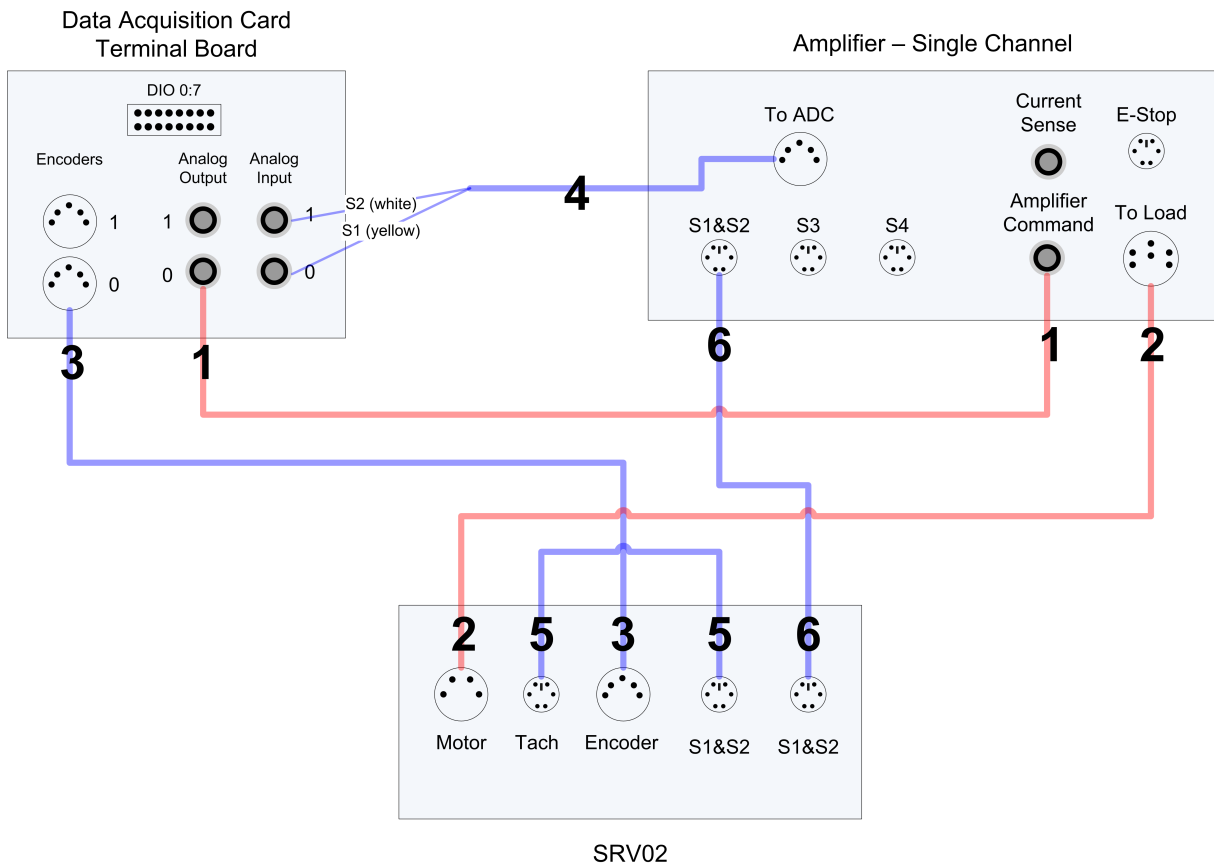

Figure 5.1: Connecting the SRV02 to a Single-Channel Amplifier and Two-Channel DAQ
This section describes the typical connections used to connect the SRV02 plant to a data-acquisition board and a power amplifier. The connections are described in detail in the procedure below, summarized in Table 5.2, and pictured in Figure 5.1.
Note: The wiring diagram shown in Figure 5.1 is using a two-channel data-acquisition board, which resembles a Quanser Q2-USB. The same connections can be applied for any data-acquisition system - as long as it has least two analog input, two analog output, and two encoder channels.
3. Connect one end of the 2xRCA to 2xRCA cable from the Analog Output Channel #0 on the terminal board to the *Amplifier Command* connector on the amplifier, i.e. use both white or both red RCA connectors. See cable #1 shown in Figure 5.1. This carries the attenuated motor voltage control signal, V_m/K_a , where K_a is the amplifier gain.
4. Connect the 4-pin-stereo-DIN to 6-pin-stereo-DIN that is labeled from *To Load* on the amplifier to the *Motor* connector on the SRV02. See connection #2 shown in Figure 5.1. The cable transmits the amplified voltage that is applied to the SRV02 motor and is denoted V_m .
5. Connect the 5-pin-stereo-DIN to 5-pin-stereo-DIN cable from the *Encoder* connector on the SRV02 panel to Encoder Input # 0 on the terminal board, as depicted by connection #3 in Figure 5.1. This carries the load shaft angle measurement and is denoted by the variable θ_l .
6. Connect the *To ADC* socket on the amplifier to Analog Inputs #0-1 on the terminal board using the 5-pin-DIN to 4xRCA cable, as illustrated in Figure 5.1. The RCA side of the cable is labeled with the channels: yellow is S1, white is S2, red is S3, and black is S4. The yellow S1 connector goes to Analog Input Channel #0 and the white S2 connector goes to Analog Input Channel #1.
7. Connect the *TACH* connector on the SRV02 to the *S1 & S2* socket on the SRV02 using the 6-pin-mini-DIN to 6-pin-mini-DIN cable. This connection is labeled #5 in Figure 5.1. It combines the potentiometer (S1) measurement with the tachometer (S2) measurement.
8. Connect the *S1 & S2* connector on the SRV02 to the *S1 & S2* socket on the amplifier using the 6-pin-mini-DIN to 6-pin-mini-DIN cable. See connection #6 in Figure 5.1. This carries the potentiometer (S1) and tachometer (S2) signals. The measured load shaft rate from the tachometer is denoted by the variable ω_l and the load shaft angle is represented by variable θ_l .
Note: The wiring diagram shown in Figure 5.1 is using a two-channel data-acquisition board, which resembles a Quanser Q2-USB. The same connections can be applied for any data-acquisition system - as long as it has at least two analog input, two analog output, and two encoder channels.